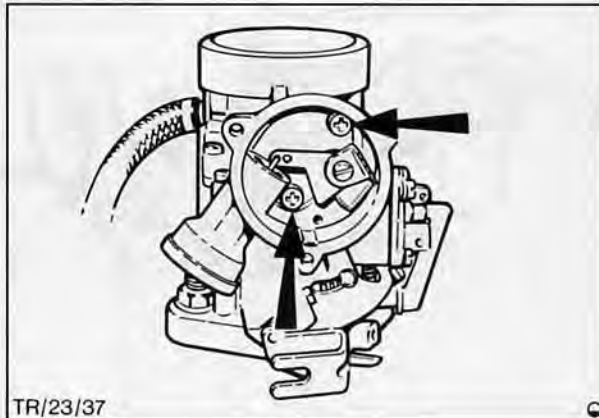

Fig. 61. Choke housing securing screws (Carburettor viewed from the rear)
5. Remove two screws securing auto-choke body to carburettor, Fig. 61.